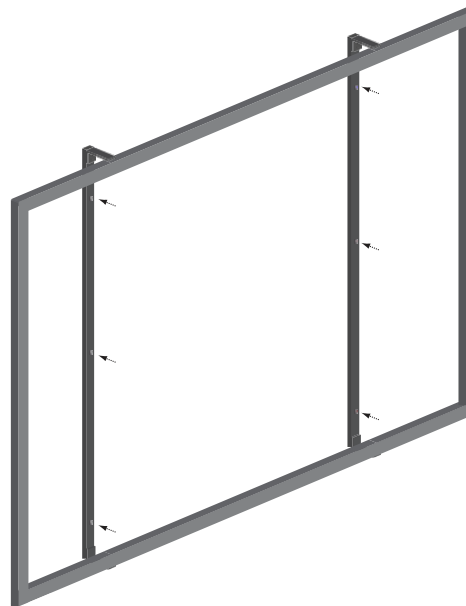

Figure 8: Positioning the Frame and Wall Boards to the Wall
4. Without the screen material attached, position the frame and wall boards on the wall (see Figure 8).